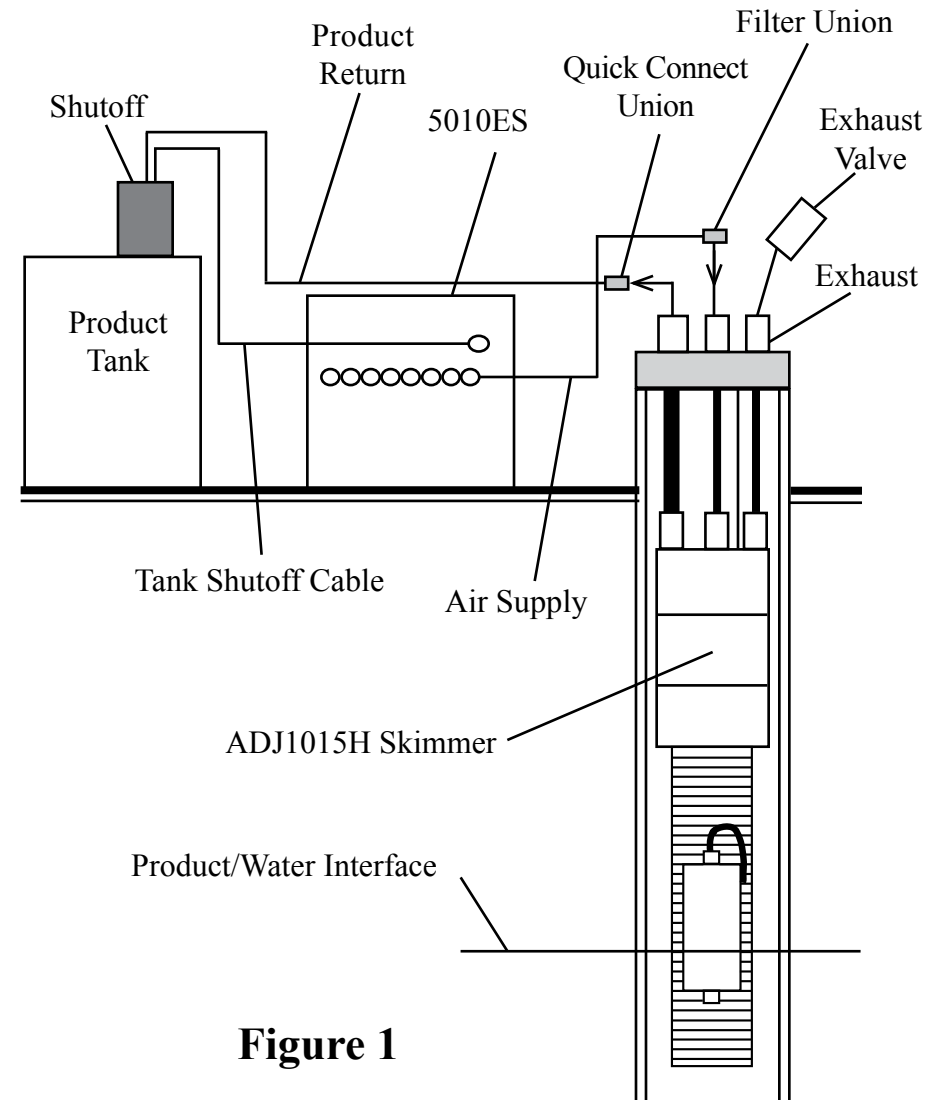
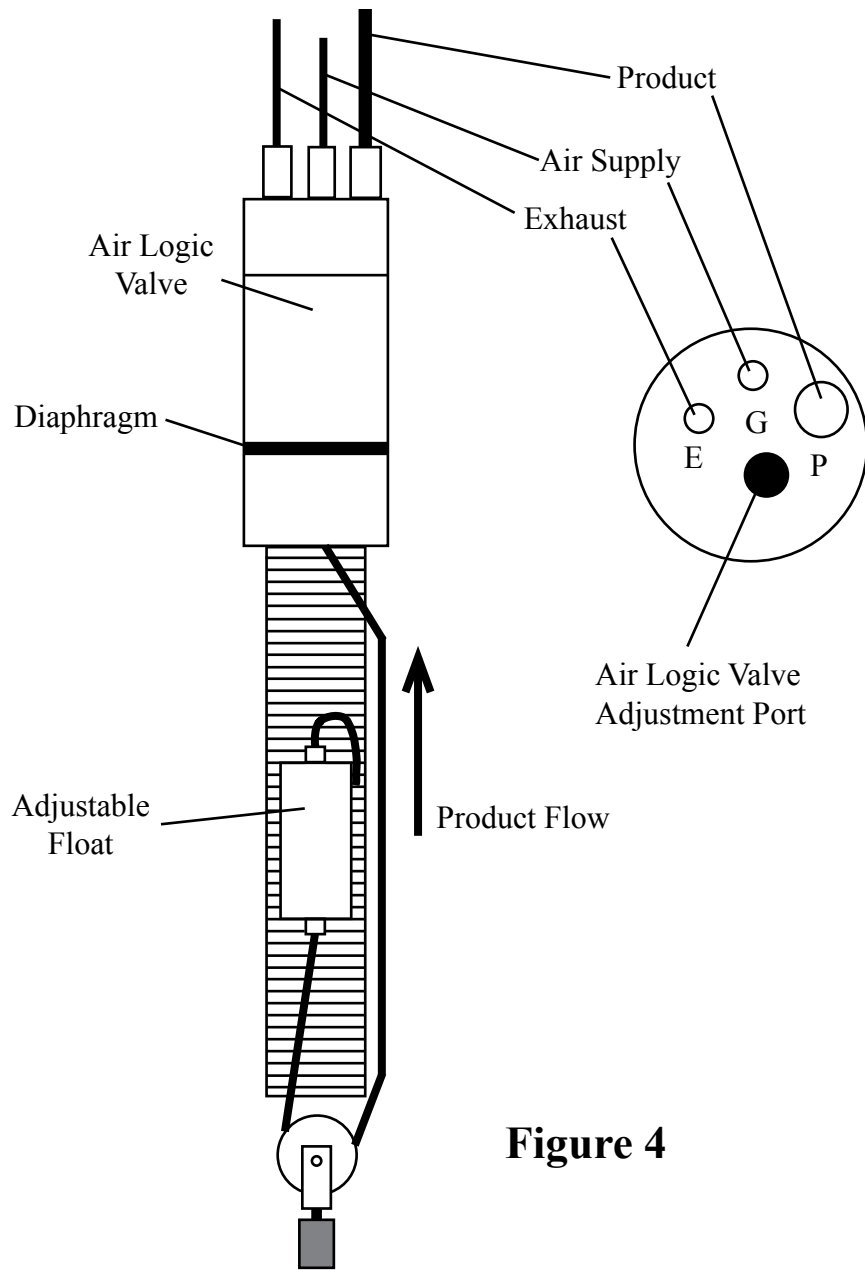

Figure 1
Figure 4
The system (Figures 1 and 2) relates to a heavy oil recovery system for wells four inches in diameter and larger. This system includes: an intrinsically safe ADJ1015H pneumatic Smart Skimmer, with an adjustable float (Figure 4), which removes heavy oil up to 200 feet deep; and a programmable Control Station Model 5010ES which operates up to 8 skimmers intermittently, records run time, and has a high level tank shutoff assembly.
STEP 1. Place programmable Control Station Model 5010ES (Figure 1) near the air source, power source, and holding tank if possible. **CAUTION:** The Model 5010ES is NOT intrinsically safe. If this controller must operate in a CLASS I area, use the XITECH Model 2550ES CLASS I Controller instead.
STEP 2. Install holding tank shutoff assembly into holding tank ( a 2” standard pipe inlet will be required in the holding tank). The level of product in the holding tank can be set by raising or lowering the liquid level float switch rod. Plug the high level shutoff switch cable connector into the left end of the controller (Figure 1).
STEP 3. Attach power line from the AC power source to the right end of the controller (Figure 1). Turn on the controller power switch. If the red “Product Tank Full” light stays on, you have a problem with tank shutoff wiring. Turn off the power switch and re-check the tank shutoff wiring. If the light continues to stay on, call the factory.
STEP 7. Position the skimmer and well cap on the ground near the well. **NOTE:** If the skimmer is over 60 feet deep, use a vented design skimmer. Cut a length of 3/8" OD air supply tubing to cover the distance from the top of the well down to water/product interface, plus 5 feet. Slide enough tubing through the well cap and attach the end of the tubing to the top of the skimmer tube fitting labeled "G" (Figure 4). If the product thickness is greater than 1 foot, position the center of the skimmer screen 1 foot below top of product. If the product thickness is less than 1 foot, position the center of the skimmer screen at the water/product interface.
STEP 8. Cut a length of 1/2" OD product tubing same length as the air supply line. Install 1/2" OD product tubing through the well cap tube fitting labeled "P" (Figure 4). Slide enough tubing through the well cap and attach the end of the tubing to the top of the skimmer tube fitting labeled "P". **CAUTION:** Do not kink the tubing.